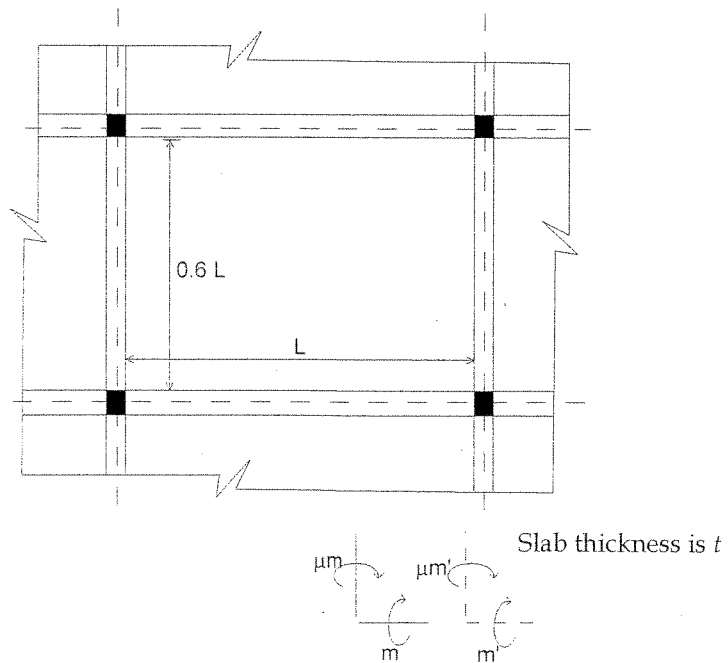

Figure Q1
- c) An orthotropic reinforced concrete slab is spanning over four beams at four edges as shown in Figure Q1. The yield moments per unit length of reinforcements, which are provided to resist sagging moment and hogging moment of the slab, are m and m' ($=2m$), respectively. Yield moments for each direction of the slab are shown in Figure Q1, and parameter μ can be assumed as 0.5. Yield moment for beam reinforcements is assumed to be $2mL$.